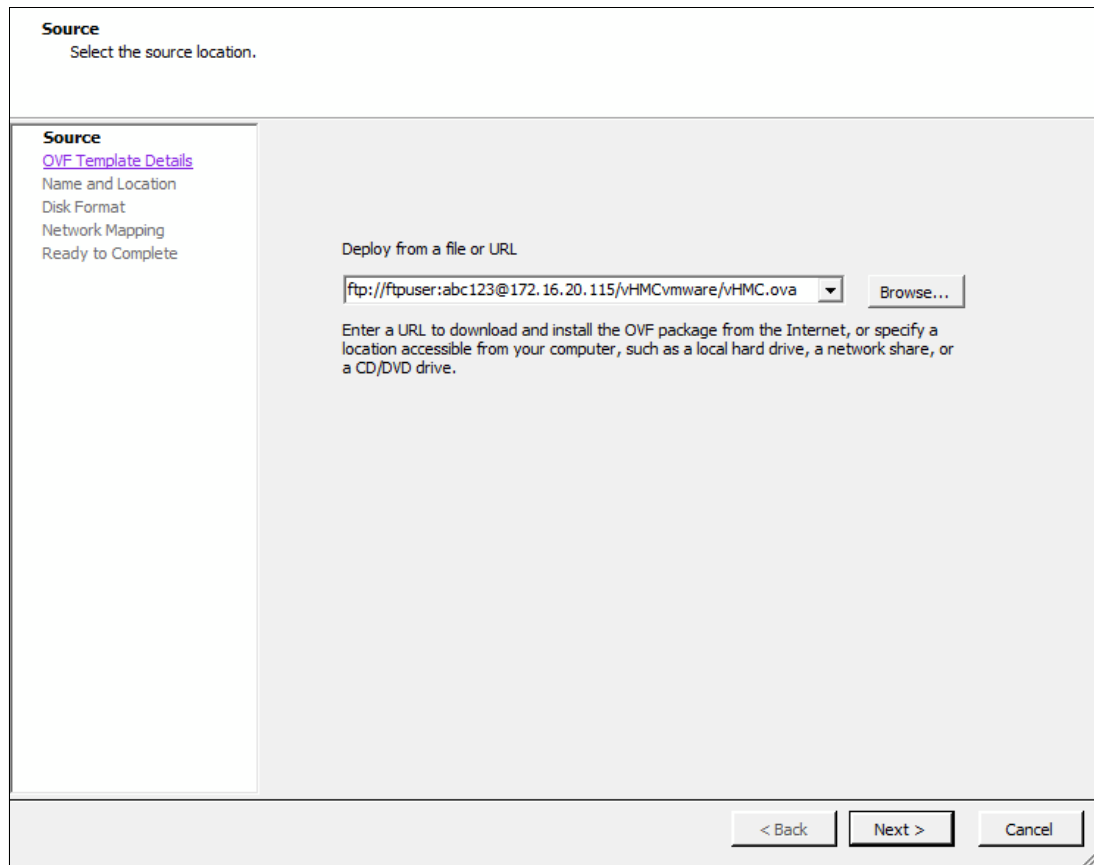

Figure 3-53 Choose an OVA file to deploy
7. You are prompted to browse to the OVA file location as shown in Figure 3-53. The default is to browse for an OVA file located on the workstation running the vSphere client. In this example the deployment location uses a URL with the user and password specified: